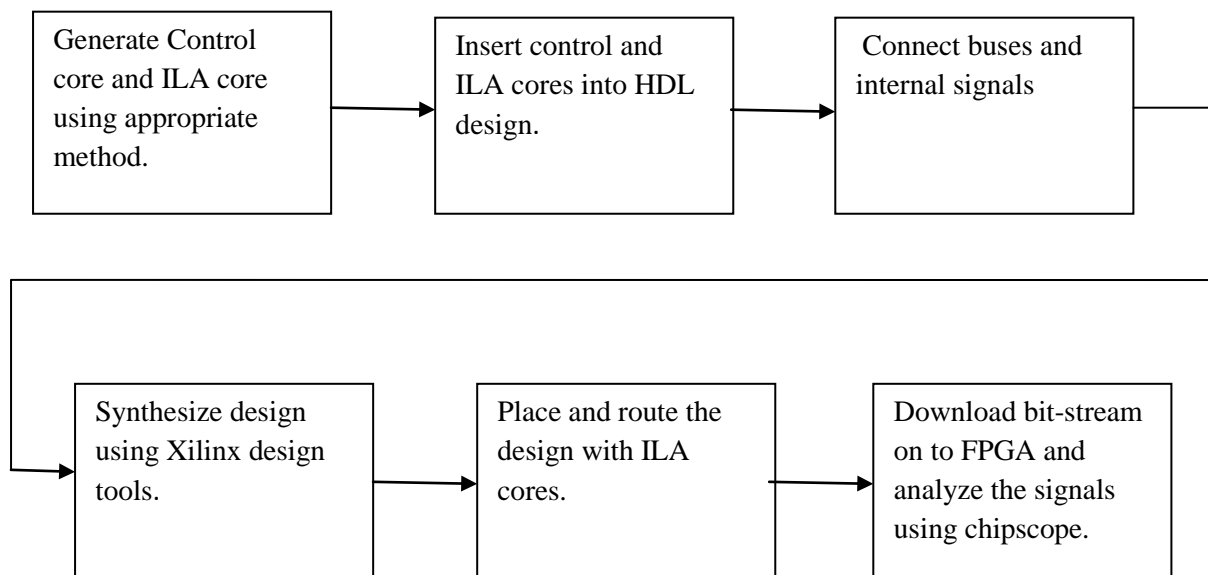

Fig 3.2: Design entry in Project Navigator
3.7 Process: The design entry in the Project Navigator looks like as in Fig 3.2.